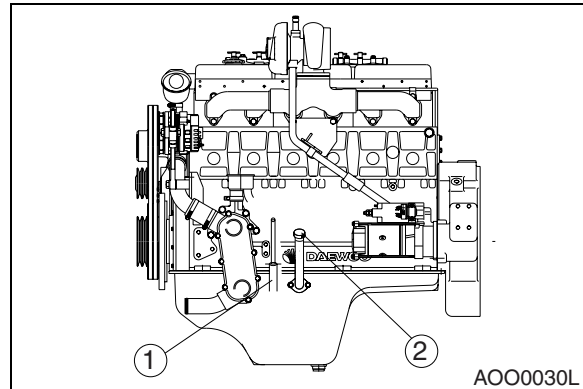

Figure 61 (S/N 3001 thru 4000)
4. Fill engine with correct oil through oil fill port (2, Figure 61).
6. Shut down engine. Look for signs of leaks at filter. Recheck oil level using dipstick (1, Figure 61).